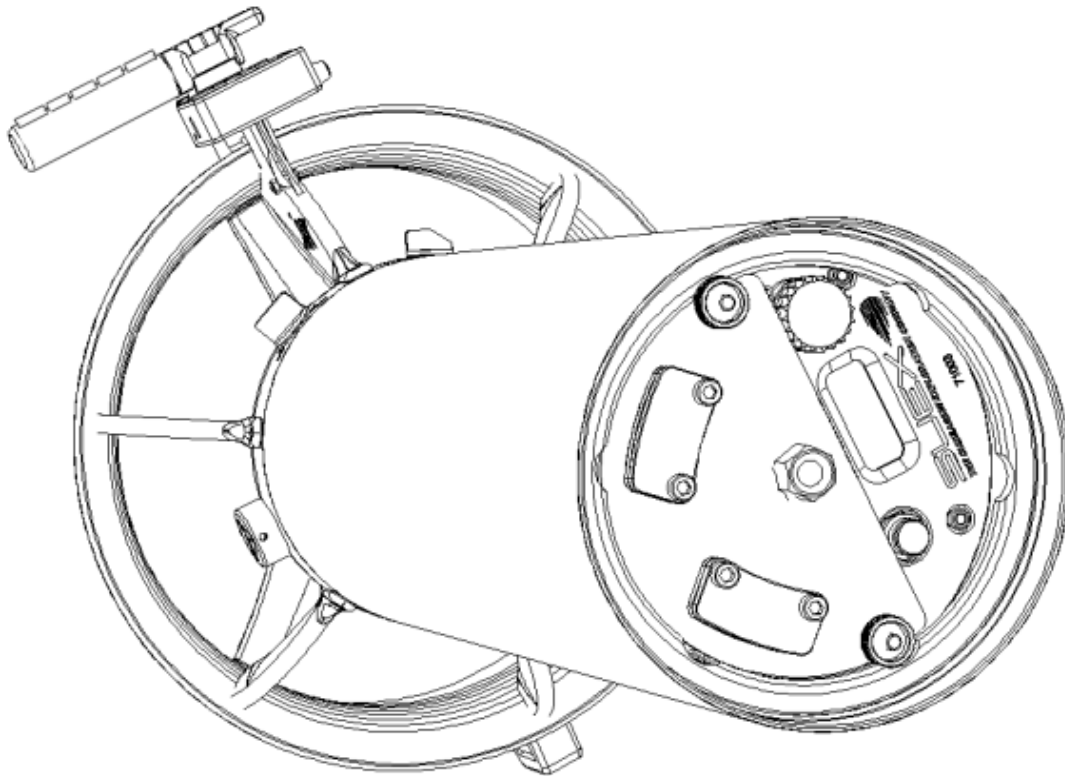

Fig.2 Opening the battery compartment
Once the nosecone has been removed, unscrew the ring nuts (11 - Fig. 2 and 3), extract the plate (12), remove the drop drop rings (11A) and remove the battery (14) by pulling it upwards. When the battery is completely removed, disconnect the red connector (15).